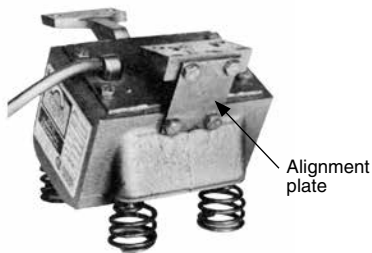

FIGURE 11
1. Attach the rear section of the tiebar to the body casting, using the alignment plate in place of the tuning springs. This puts the two sections of the tiebar into proper dimensional relationship (See Figure 11).